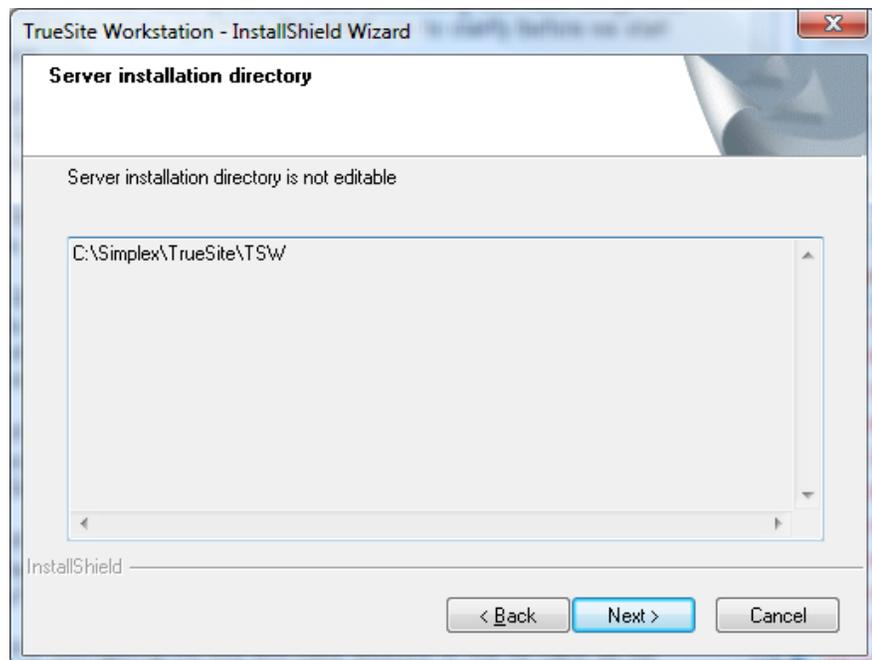

Figure 3-14 Server Installation Directory Dialog Box
- e. The Server installation directory dialog box appears (see Figure 3-14). It indicates which location the TSW program files will be sent to. That location is C:\Simplex\TrueSite\TSW. Click **Next** to continue.